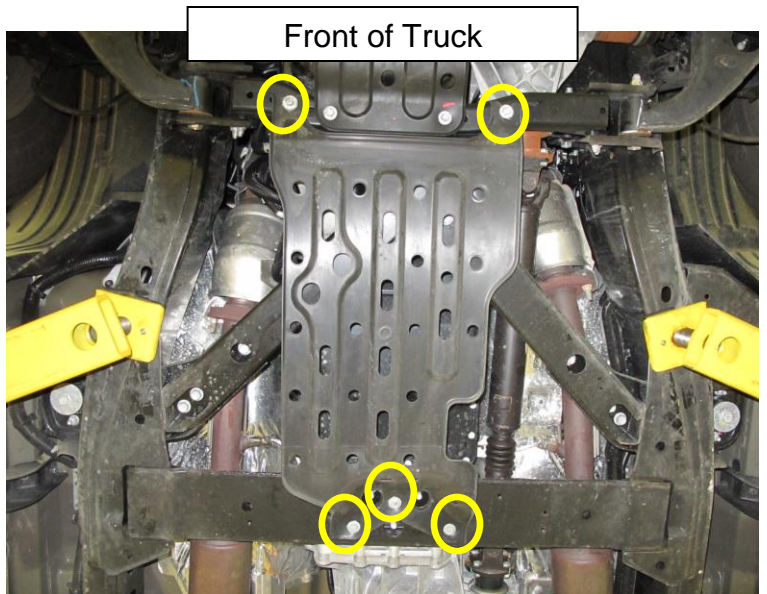

Figure 3
4. Remove the engine under cover (Figure 3).
- Remove the (5) engine under cover bolts.